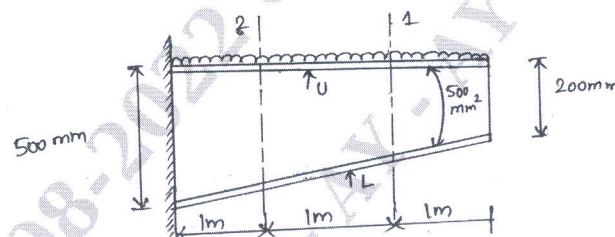

Fig. Q9 (a)
- 9 a. A wing spur has the dimension shown in Fig. Q9 (a) carries a uniformly distributed load of 15 kN/m along its complete length. Each flange has a cross sectional area of 500 mm2 with the top flange being horizontal. If the flanges are assumed to resist all direct loads while the spar web is effective only in shear, determine the flange loads and the shear flow in the web at Sections 1 and 2 m from the free end. (10 Marks)
- b. The wing section shown in Fig. Q9 (b) has been idealized such that the booms carry all the direct stresses. If the wing section is subjected to a bending moment of 300 kNm applied in a vertical plane, calculate the direct stresses in the booms.